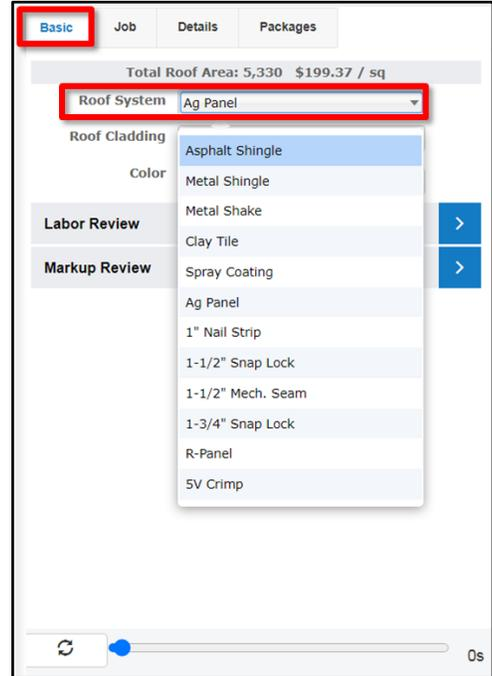

Figure 20: Selecting a new metal type (*Product System*) for your roof.
2. A *Download Outputs* dialog box will open, similar to the one pictured in **Figure 20** at right.